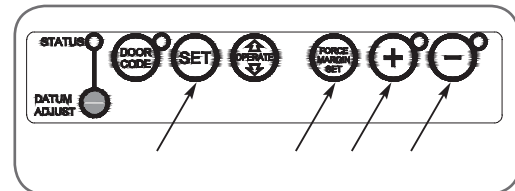

fig 12
1. Open the door by pressing the OPERATE button (Fig. 12).
1. Press and hold the Force Margin Set button (Fig. 12)
1. Press and hold the Force Margin Set button (Fig. 12).
1. While holding down the Force Margin Set button (Fig. 12) press the SET button for two (2) seconds.